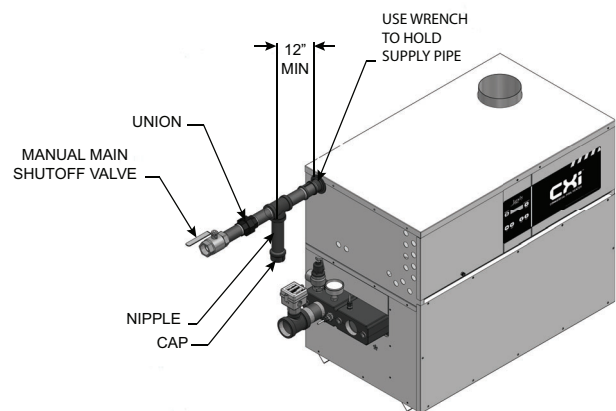

Figure 3-1\_Gas Line Connection
5. Install a sediment trap in the supply line to the unit's gas inlet (see FIG. 3-1).